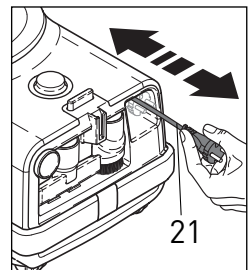

Figure 2
2. Grasp the plug and pull the power cord (21) out from the power cable recess (figure 2). The power cord should be unwound from the cable reel at least two thirds of its length or approx. twenty-five feet. Do not over extend the cord. **DO NOT PLUG INTO POWER SOURCE UNTIL STEP 4 BELOW.**